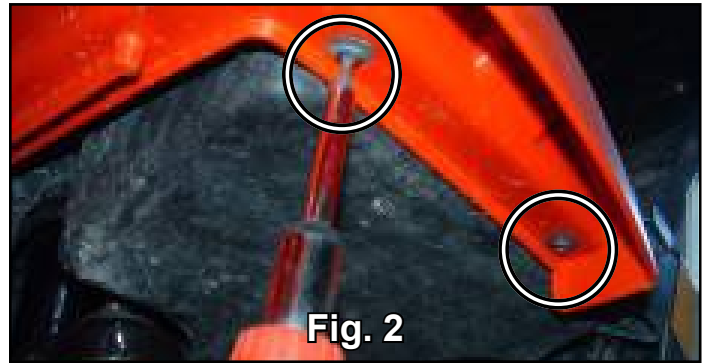

Fig. 2
3. Remove (4) Star Screws from bottom of Rack. See Fig. 2.